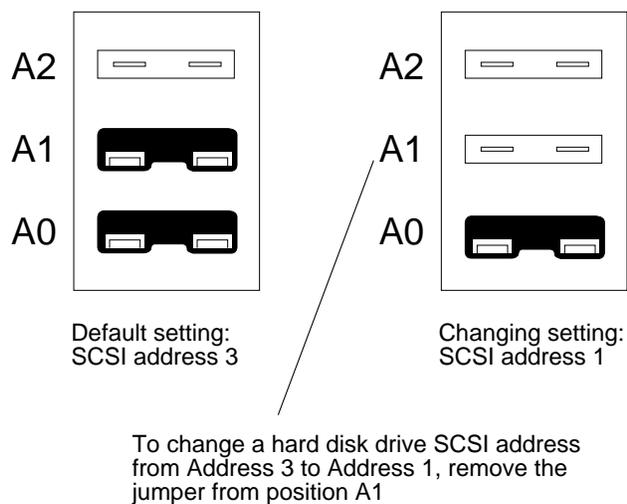

Figure 4-8 Changing a SCSI Address Jumper
2. Remove the jumper from A1 (see Figures 4-8 and 4-9) if it is present on the replacement drive. This action changes the SCSI Device ID of drive 2 from 3 to 1.